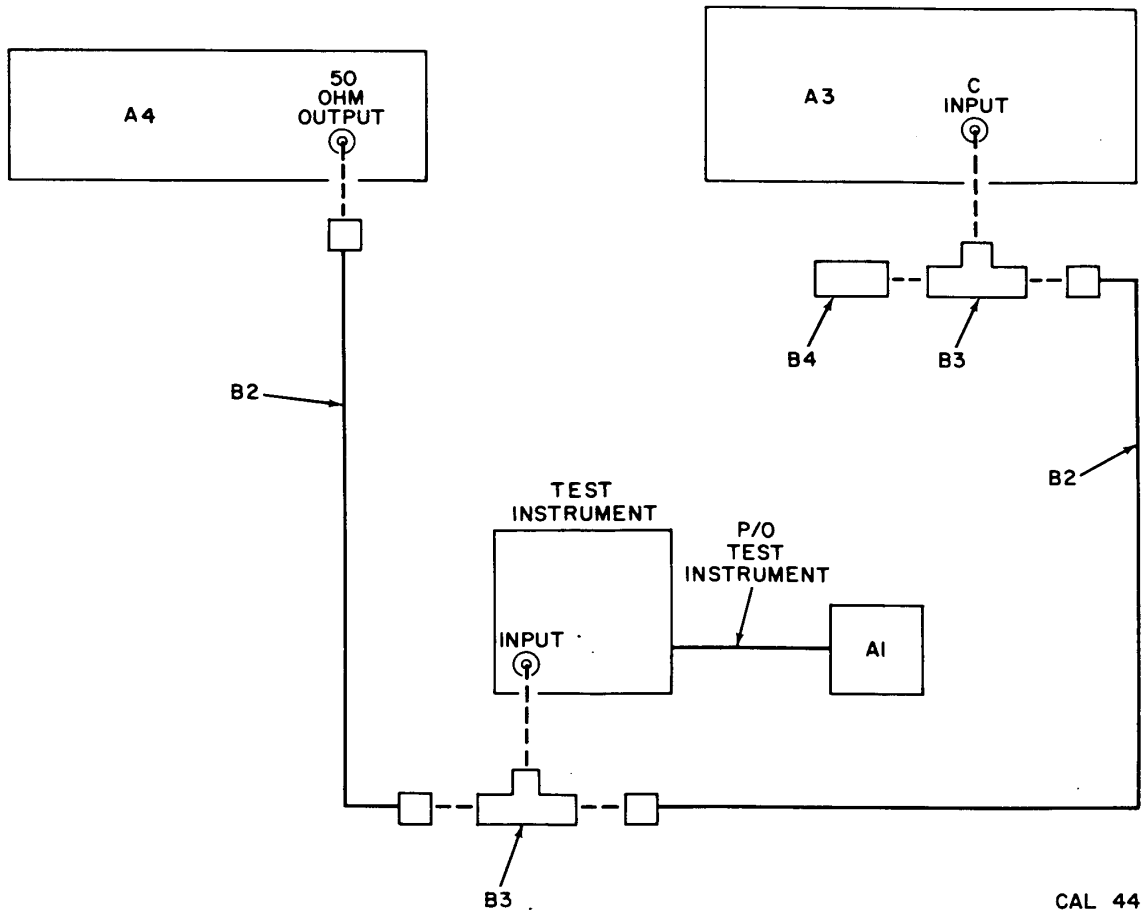

Figure 2. Sensitivity and Regulation - equipment setup
- (1) Connect equipment as shown in figure 2.